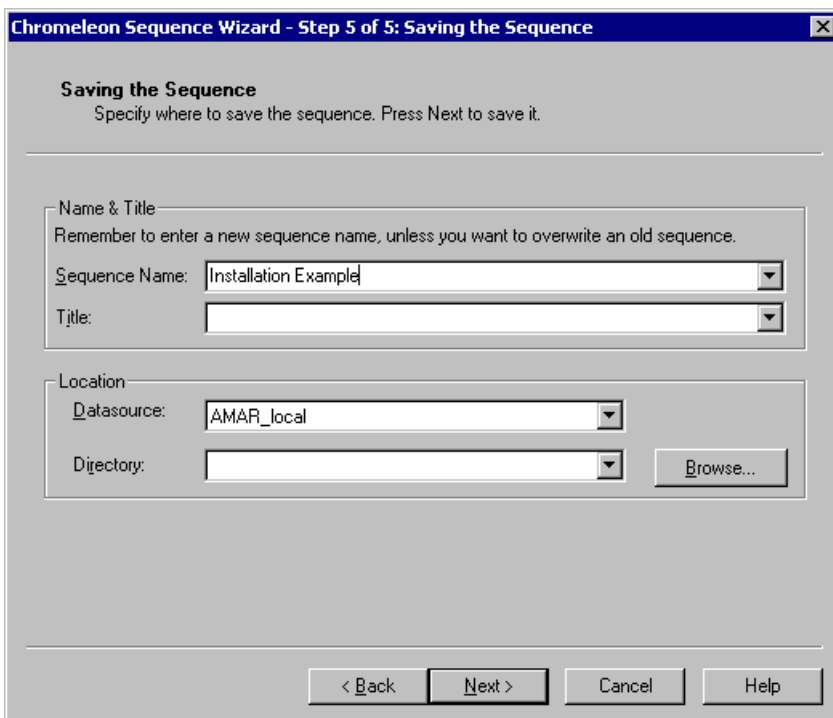

Figure B-31. Example: Sequence Wizard Step 5
17. Enter a name for the sequence and a location (see the example in Figure B-31).